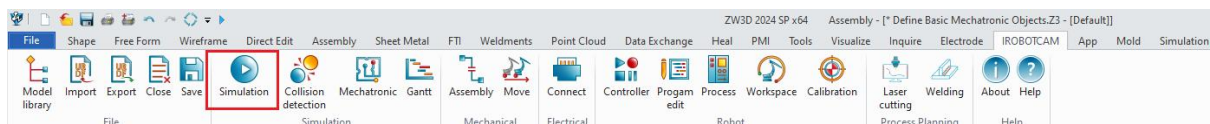

Figure 5-15: Simulation button
- Click on the “IROBOTCAM” tab.(Figure 5-15)